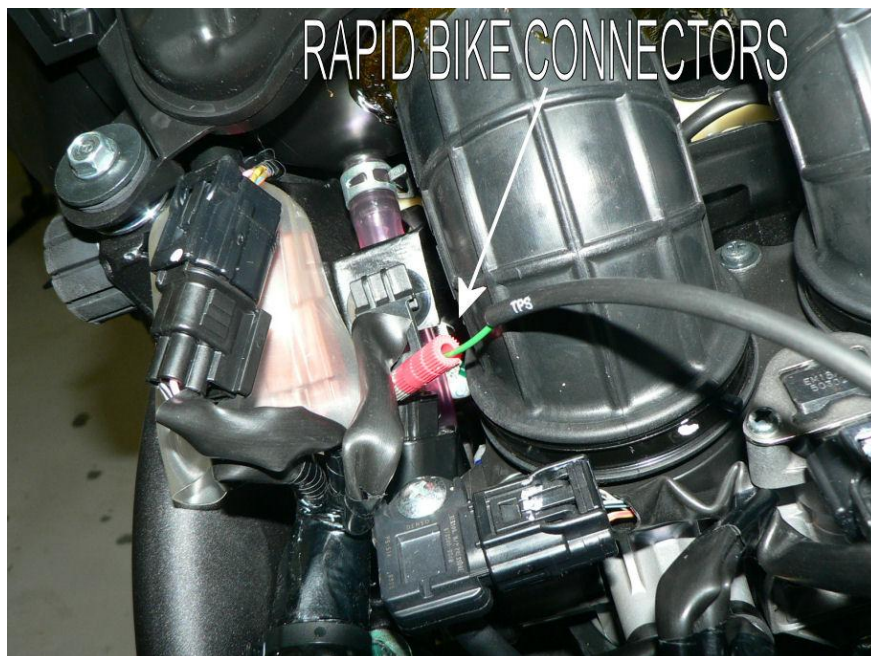

Fig.6
7. Connect the green wire of the Rapid Bike harness to the blue wire with yellow stripe on stock connector, using the provided posi-tap connector (**Fig.6**).